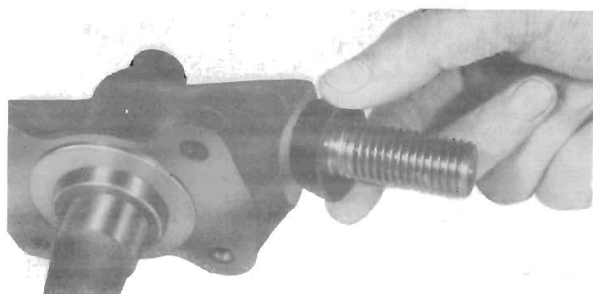

Fig. 32. Removing rubber seal from vertical link
6. Unscrew the vertical link (18) from the trunnion (42) and withdraw the seal (43) see Fig. 32. The vertical link fitted to the left-hand side of the vehicle has a left-hand thread and the vertical link fitted to the right-hand side of the vehicle has a right-hand thread.
7. Remove the nyloc nut (23) and plain washer (24) and, using a press, remove the stub axle (52) from the vertical link (18).
1. Insert the stub axle (52) into the vertical link (18) with the split pin hole in its outer end horizontal. Fit the washer and nyloc nut securing the stub axle to the vertical link.
2. Fit the rubber seal (43) to the vertical link, Fig. 32. Screw the vertical link into the bronze trunnion as far as possible then unscrew it to the first working position, *i.e.*, so that it does not bottom when the road wheel is turned to full front or back lock.
3. Insert the tapered pin of the ball joint (16) into the tapered hole in the top of the vertical link (18) and retain in position with the washer (21) and nyloc nut (22).
4. Untie the brake backing plate assembly from the chassis frame and locate it in position on the vertical link. Insert the steering lever (28) through the aperture in the vertical link (18). Retain the brake backing plate (47) or caliper bracket dust shield and steering lever (28) in position by fitting the tabwasher, washers, bolts and nyloc nut. On disc brakes, seal the dust shield to the vertical link and caliper bracket with expandite seal-a-strip (105 S) Part No. 554420.